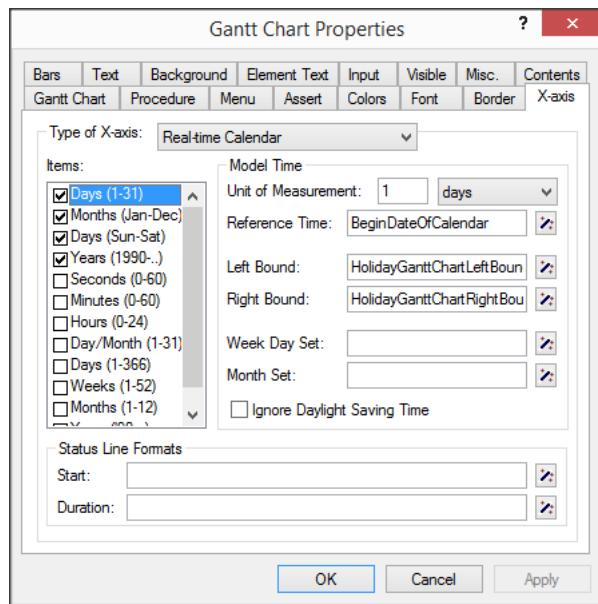

Figure 12.11: The **X-axis** tab of the **Gantt Chart Properties** dialog box
- ▶ check ‘Days (Sun-Sat)’, ‘Days (1-31)’, ‘Months’ and ‘Years’ as illustrated in Figure 12.11,